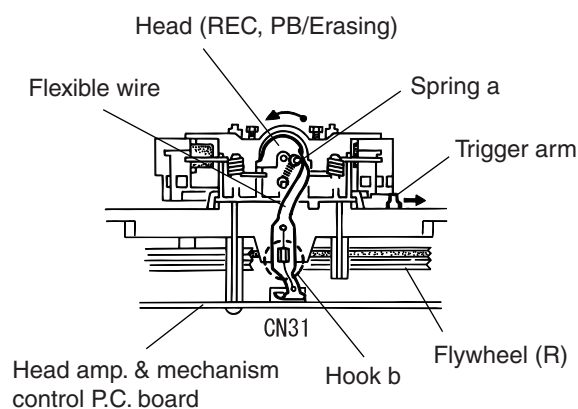

Fig. 2
2. Turn the flywheel (R) counterclockwise. The playback head accordingly turns counterclockwise from the position shown in Fig. 2 to that in Fig. 3.